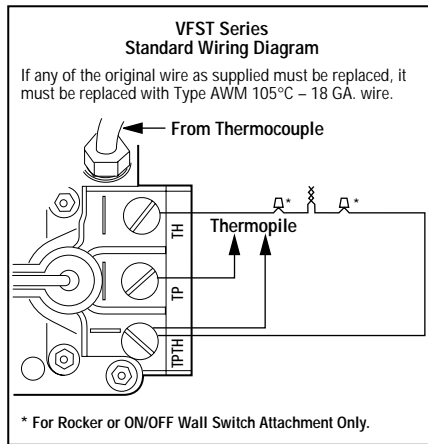
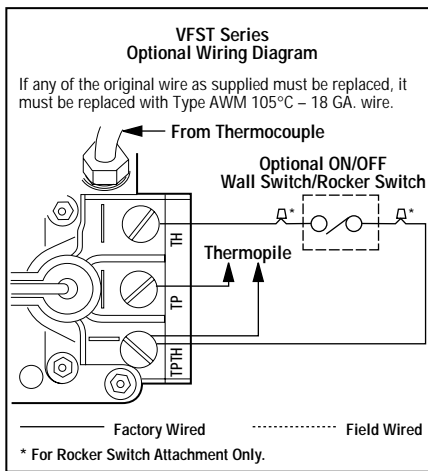

Figure 12
Figure 13
Step 6. Installing the Optional Remote Wall Switch – The standard millivolt system comes from the factory wired as shown in *Figure 12*. Select a convenient location for the remote wall switch and connect the wiring to the appliance (*Figure 13*).
An optional wall switch kit can be installed along with all vent-free appliances. The kit consists of a standard UL wall switch with cover plate. This kit provides for remote (wall) operation of the appliance. Replace the wall switch and cover plate of this kit with the components of the FWSK and you can have true remote control of your vent-free appliance, turning it on and off from your favorite easy chair. The wall switch kit should be installed along with the appliance. Refer to Figure 13 and Step 6 for detailed installation instructions.